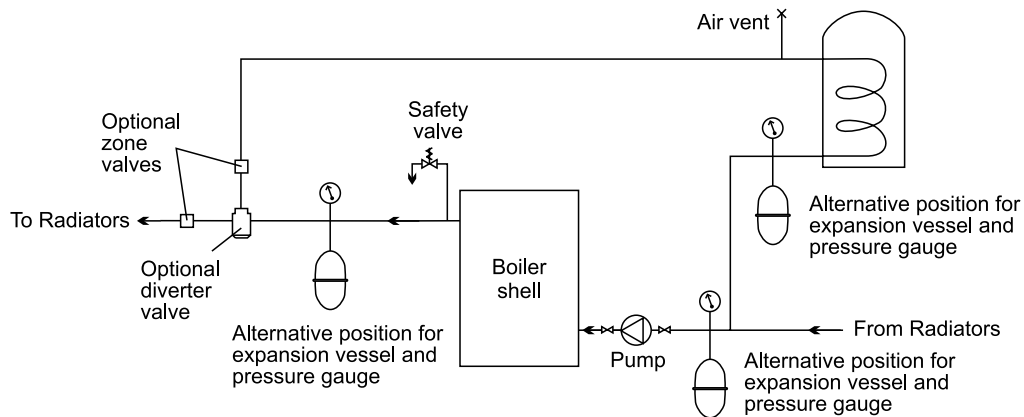

Fig. 8
See Figs. 8, 9 and 10
#### 3.10.1 Sealed system - (See Fig. 8)
- 3 The expansion vessel can be fitted in either the return or flow pipework in any of the recommended positions as shown in Fig. 8. To reduce the operating temperature of the expansion vessel diaphragm, position it below the pipe to which it is connected. The expansion vessel may be positioned away from the system, providing the connecting pipe is not less than 13 mm diameter. Refer to section 4.8 for further details of the expansion vessel.